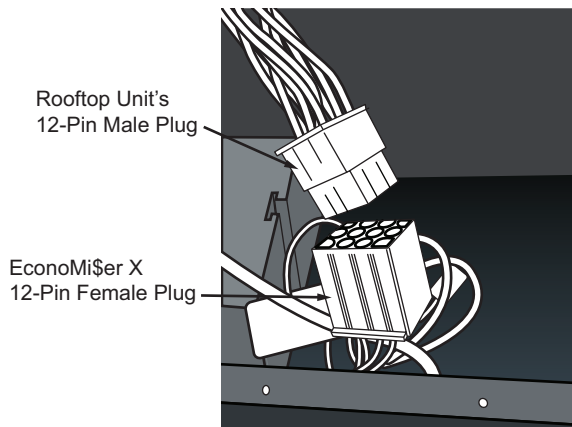

Fig. 5 — Connect EconoMiSer X Harness to Unit PL6 Economizer Harness
8. Remove and save the 12-pin jumper plug from the unit economizer harness – located in the upper left corner of the unit. Insert the EconoMiSer X plug into the unit wiring harness. See Fig. 5.